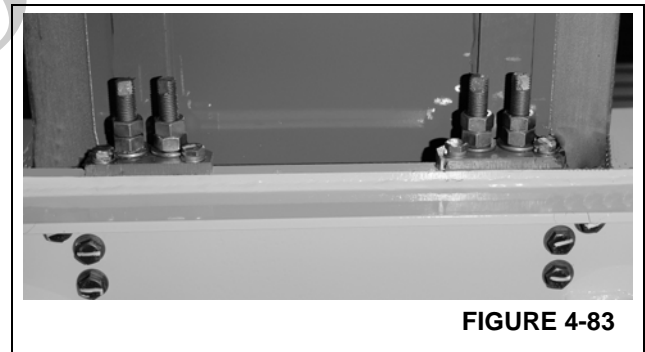

FIGURE 4-83
4. Connect the Mid Retract cables to front end of Base section (Figure 4-83).